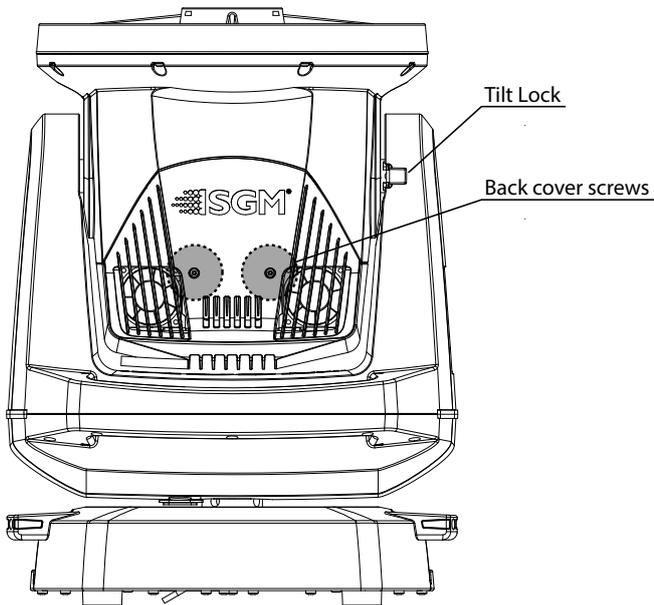

Figure 34: Back cover screws
4. Remove the back cover by loosening its 2 screws (figure 34).